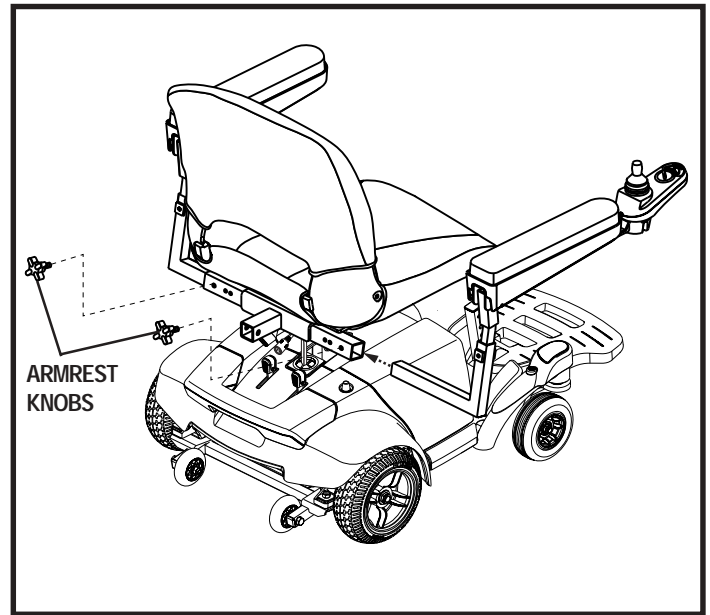

Figure 12. Armrest Width Adjustment
1. Locate the two armrest knobs on each side of the armrest receiver bracket. See figure 12.